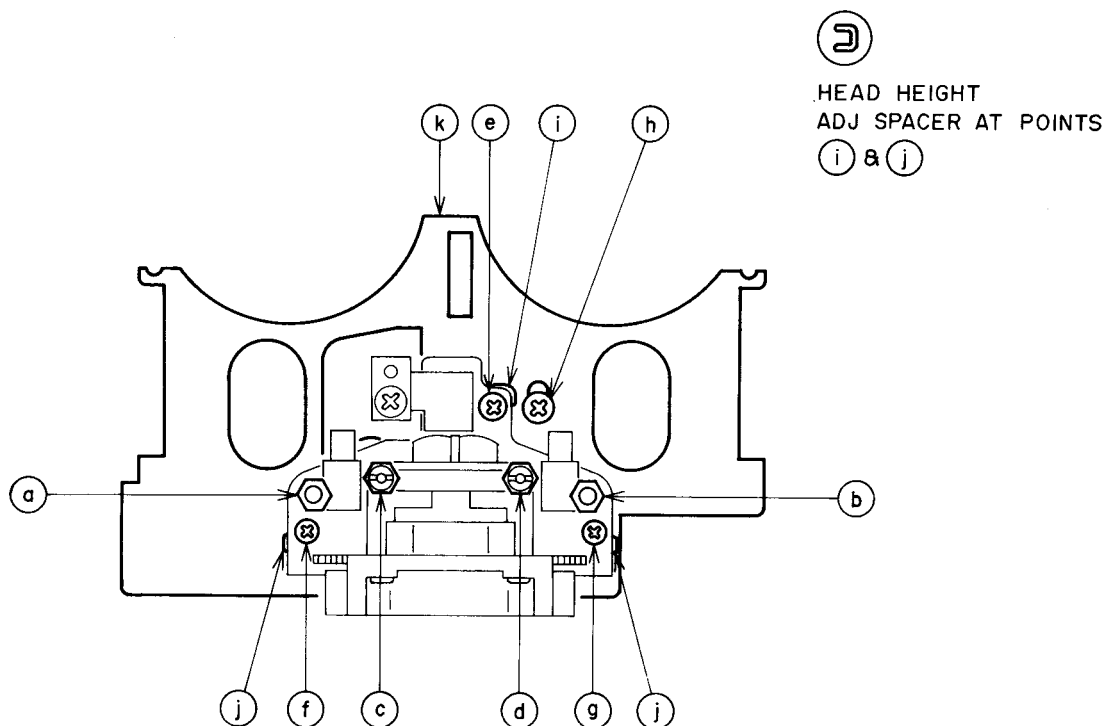

Fig. 6-2
- b) Adjust the Erase Head Height by turning the nuts ① & ② shown in Fig. 6-2, so that the Line out level is  $-5.5$  dBm (315 Hz) or  $-6.1$  dBm (333 Hz).
- c) Select REV PLAY mode, and re-adjust the Erase Head Height by turning the nut ③ & ④ so that the difference in level (L-CH) between FWD and REV modes is within  $\pm 0.5$  dBm.
- f) Adjust Tape Guide (A) Height by turning the nut (A) and Erase Head (REV) Height by the nut (B) respectively, so that the tape runs smoothly by the adjacent edge of the Erase Head (FWD) without curling.
- g) Next, select REV PLAY mode, and adjust Tape Guide (B) Height by turning the nut (B) so that the tape runs smoothly by the adjacent edges of both Erase Heads (FWD & REV) without curling.
### 6-2 REC/PB HEAD AZIMUTH ADJUSTMENT (Refer to Fig. 6-2)